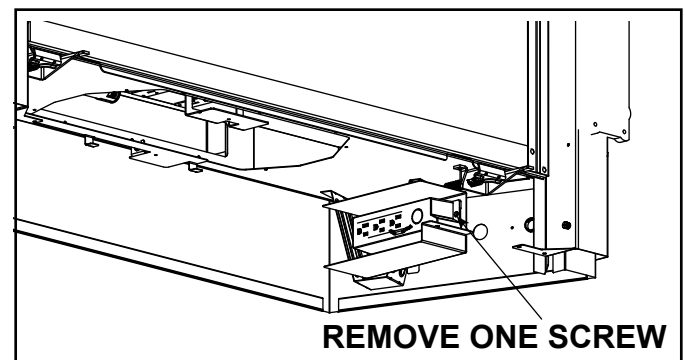

Figure 8.2 Junction Box Detail - COSMO36-IFT-B, COSMO42-IFT-B
**COSMO42-IFT-B/COSMO36-IFT-B:** The junction box is secured to a bracket. Remove one screw. See Figure 8.2.